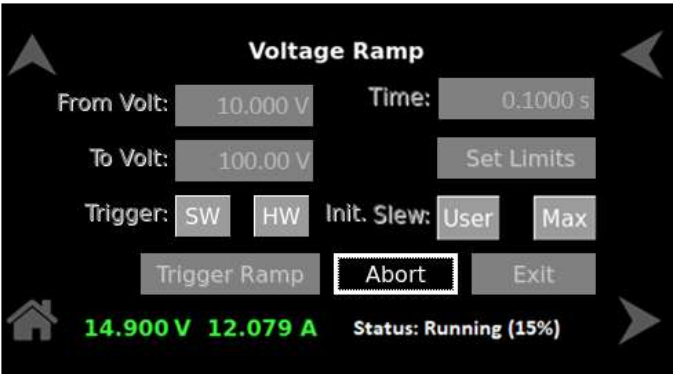

Figure 8-62. Status – Running
d) **Running:** When the system is executing the trigger ramp process, refer to Figure 8-62.